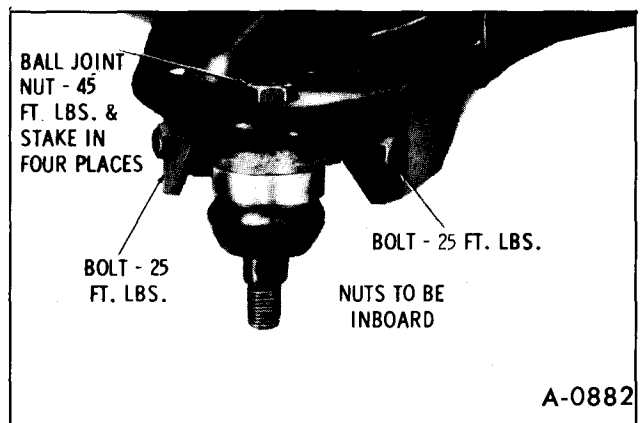

Figure 28—Installing Service Ball Joints
1. Install service ball joint into control arm and torque bolts and nut as shown in Figure 28.